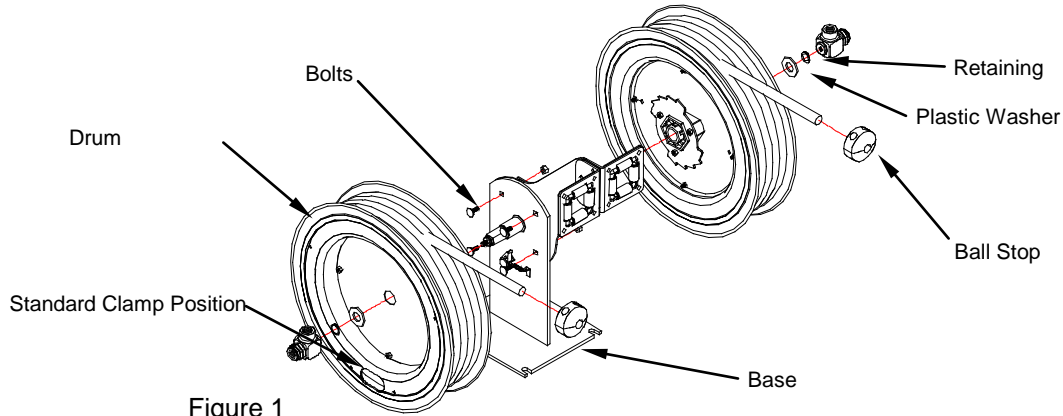

Figure 1
5. Remove hose clamps, located inside the drums, from standard clamp positions. (See Figure 1)